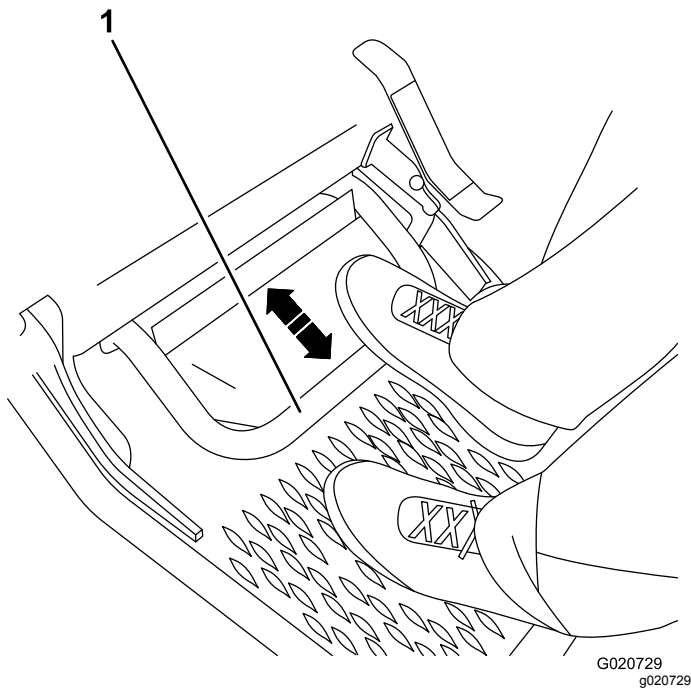

Figure 28
4. Step on the service brake pedal (Figure 28).
2. Step on the service brake pedal (Figure 28).